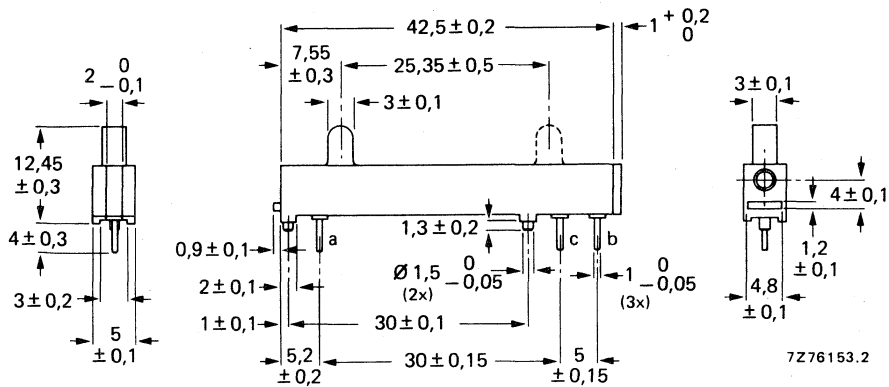

Fig. 1a Potentiometer with symmetrically placed slider.
- 1 = symmetrically placed (Fig. 1a)
Dimensions are identical with those in Fig. 1a except as shown.